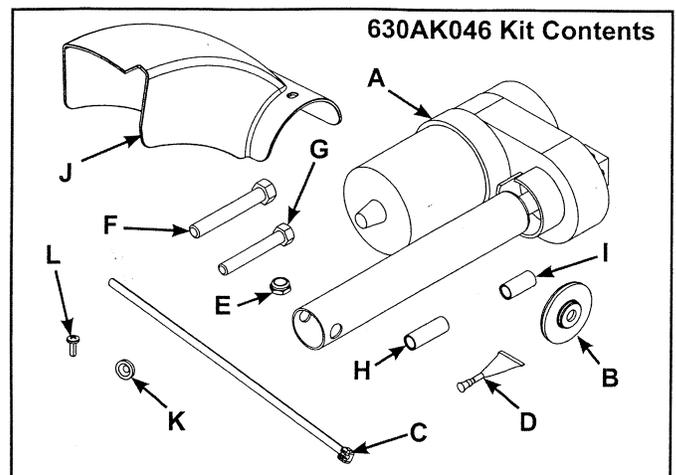
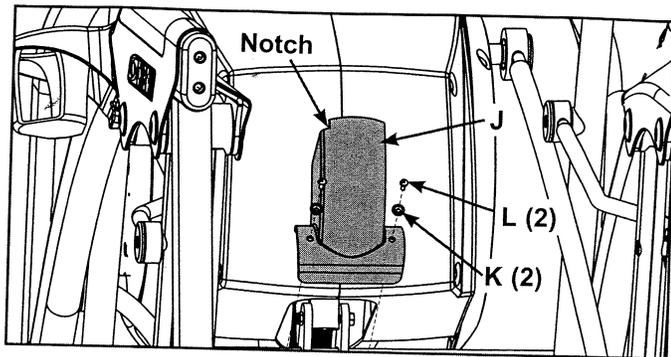

Figure 1b
Figure 12
3. Verify 630AK046 kit contents. See Figure 1b.
- A. Elevation Motor 12VDC (1), MR-18446
- B. Cap (1), PL-16535
- C. Cable tie (1), EW000028
- D. Loctite (1), YA000201
- E. Nylon Locknut .375-16 (2), HN704902
- F. Screw, HHCS .375-16 x 2.50 (1), HC701230
- G. Screw, HHCS .375-16 x 2.0 (1), HC701226
- H. Elevation Mounting Bottom Sleeve (1), FT-17243
- I. Elevation Mounting Top Sleeve (1), FT-17242
- J. Elevation Motor Cover (1), 740A-354
- A. Using a Phillips screwdriver, attach the new elevation motor cover (J) to the main frame using the two screws (L) and two nylon (K) washers from kit 630AK046. See Figure 1b and Figure 12.